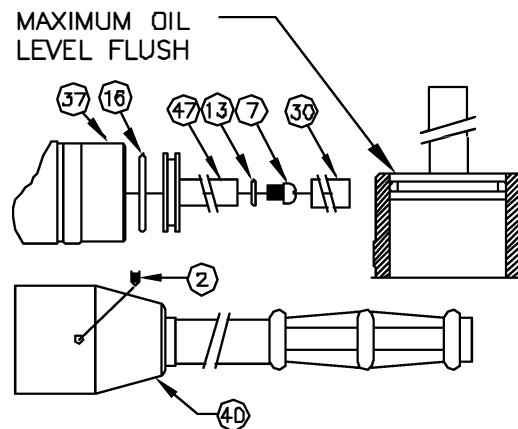

FIGURE 8
5. Grasp the stem of plunger 47 and lift it so the plunger is no higher than the oil reservoir section of the body 37 (see Figure 8).
REPLACING OIL PLUNGER O-RING: (SEE FIGURE 8)
8. Apply slight pressure to plunger 47 (see Figure 8) to allow the oil to just reach the surface of the fill hole, then replace the filler screw 7 and O-ring 13.
NOTE: Tool may be flushed to some degree by rotating the advance handle or pushing down on plunger 47 (see Figure 8) to force oil through the inlet passages, thus forcing any material out of the tool.